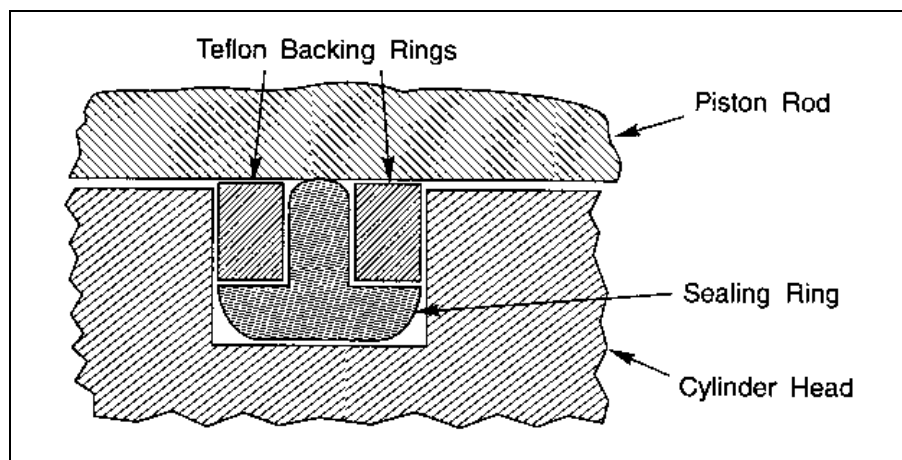

Figure 1—Piston Rod Seal and O-ring Placement
1. Lubricate, then install the piston rod seal as shown in Figure 1. The backup rings are cut with a bevel; be sure the ends match up and do not overlap.